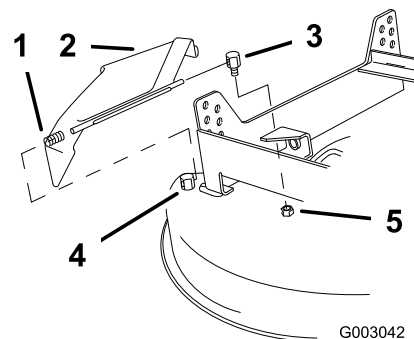

Figure 53
1. Remove the locknut holding the rear deflector pivot post to the mower and remove the rear pivot post (Figure 53).
2. Remove the deflector assembly from the front (fixed) deflector pivot post and remove the deflector assembly from the mower (Figure 53).
5. Install the rear deflector pivot post onto the mower and tighten the locknut (Figure 53). The grass deflector must be spring-loaded in the down position. Lift the deflector up to test that it snaps to the full down position.